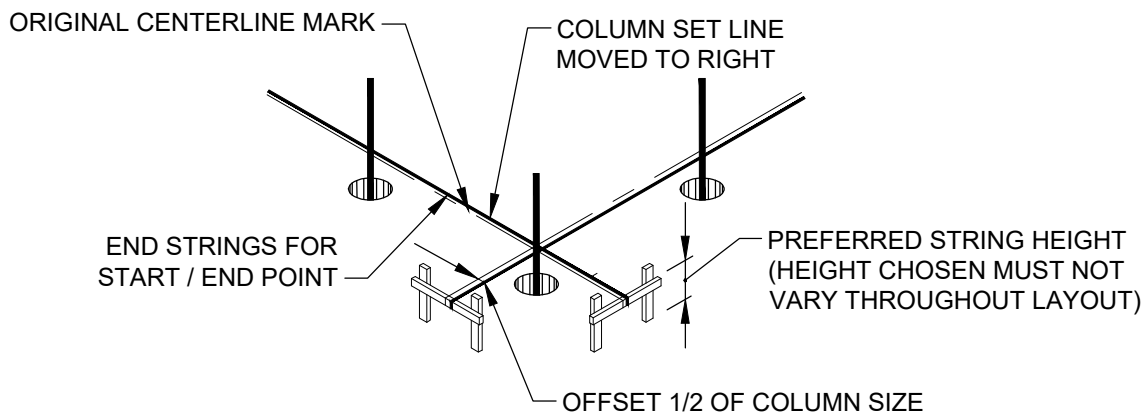

FIGURE 8 - OFFSETTING OF THE COLUMN SET LINES
2. TO FIND THE COLUMN SET LINES, YOU MUST RESTORING THE FOUNDATION LAYOUT. FROM THE CENTER LINE MARKS ON THE BATTER BOARDS, MEASURE 1/2 THE SIZE OF THE COLUMN AND MOVE THE LINES TO THAT MARK. (ALWAYS MOVE THE LINES IN THE SAME DIRECTION TO PREVENT CONFUSION AND MISPLACEMENT OF COLUMNS (SEE FIG. 8).